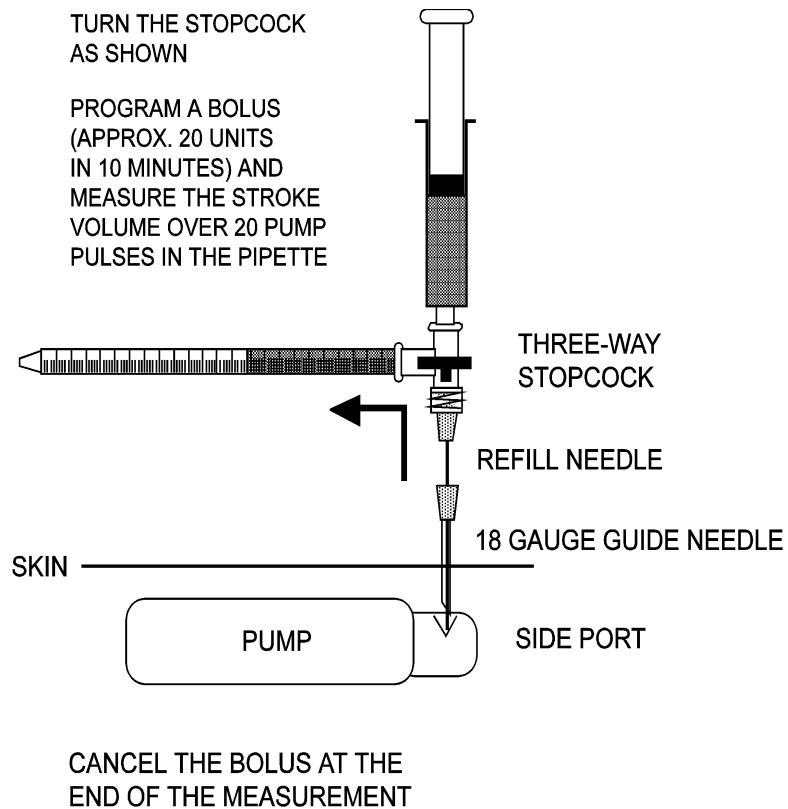

Figure 20: Closed Stopcock
7. Turn the stopcock back to the position shown in Figure 20 to close. Remove the apparatus.